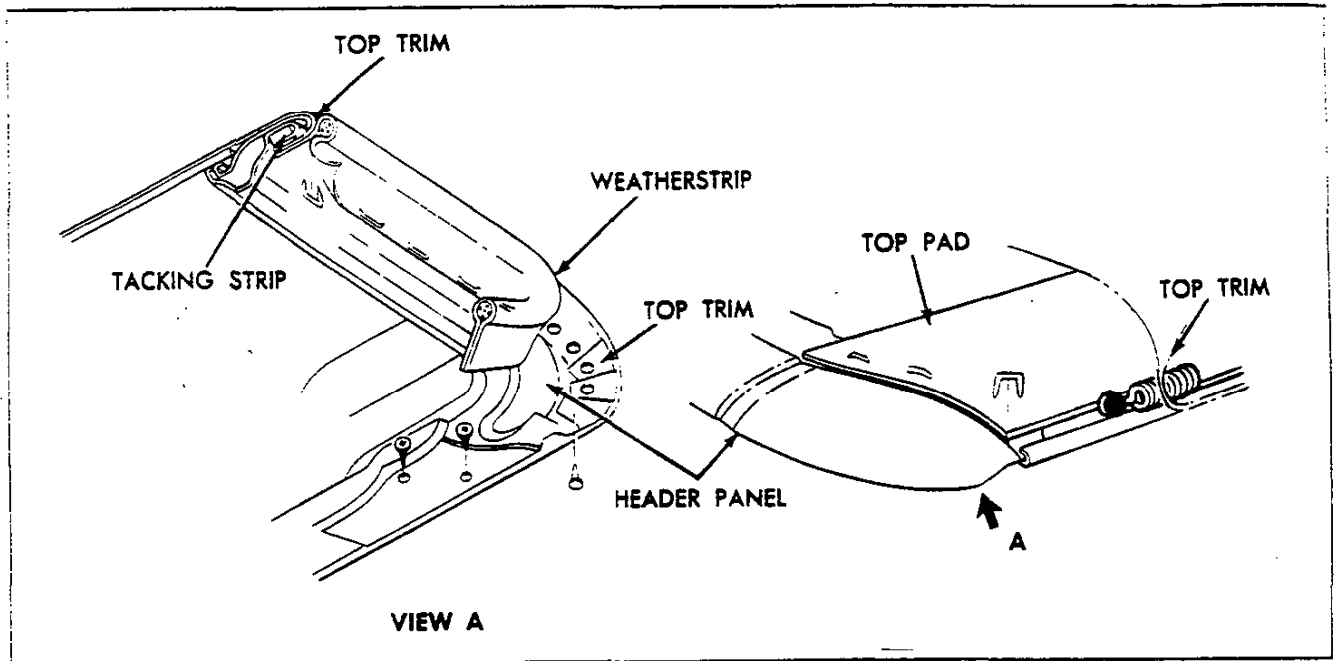

Fig. 70—Trim of Header
2. Remove tacks securing top and header outer weatherstrip to header (fig. 70).
14. Release header from windshield. Tack or staple trim to header (fig. 70).